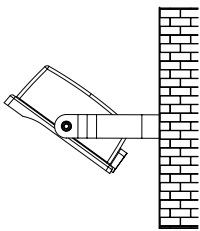

Fig. 8
- 6.) Attach the yoke bracket to the surface, loosen the bolts on both sides of the yoke, and adjust the luminaire to the desired angle. Secure the luminaire in this position by tightening the bolts on both sides of the yoke (**Fig. 8**).